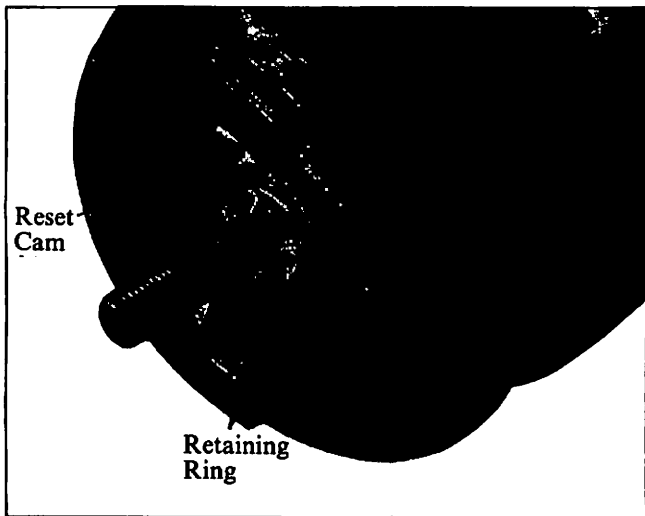

Figure 15. Reset Cam Removal.
4. Wheel Group Parts Replacement. See Figures 15, 16, 17 and 18. The reset cam, individual wheels, locking discs and eccentrics may be replaced as required.